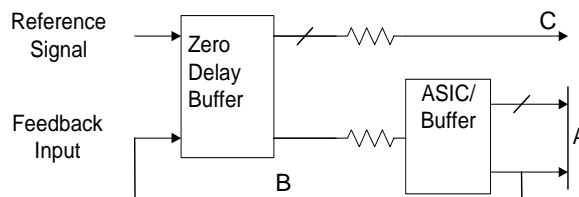

Figure 1. Output Buffer in Feedback Path
Referring to Figure 1, if the traces between the ASIC/buffer and the destination of the clock signal(s) (A) are equal in length to the trace between the buffer and the FBIN pin (B), the signals at the destination(s) device (C) will be driven high at the same time the Reference clock provided to the ZDB goes high. Synchronizing the other outputs of the ZDB to the outputs from the ASIC/Buffer is more complex however, as any propagation delay in the ASIC/Buffer must be accounted for.